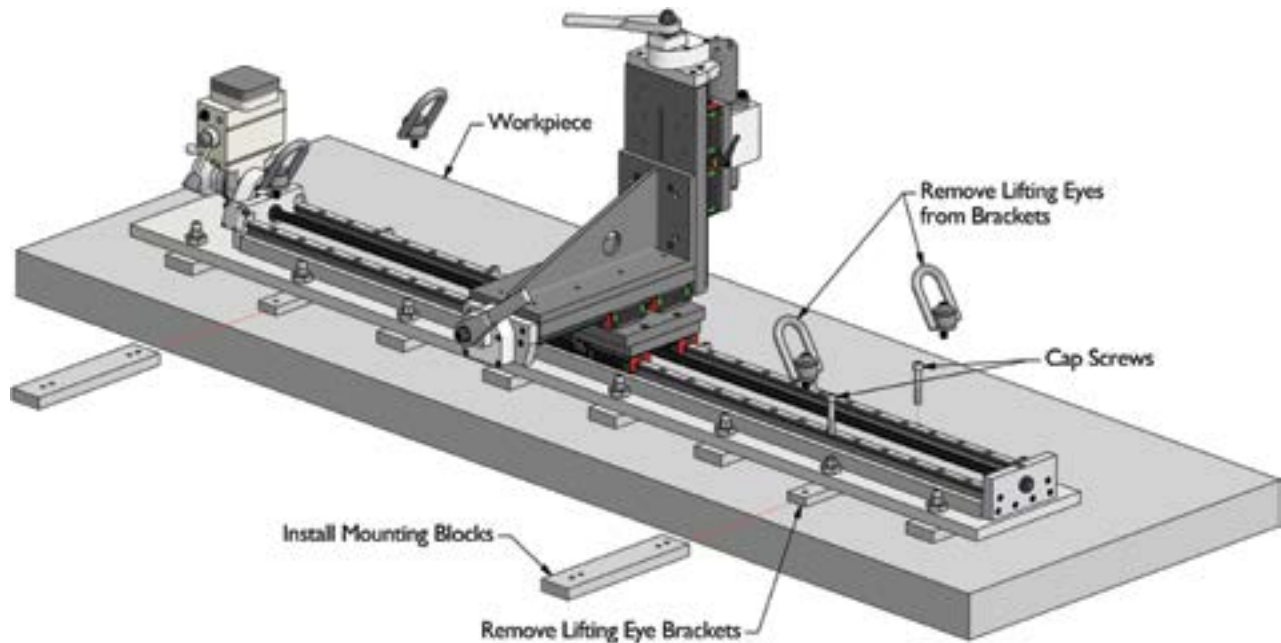

Figure 2 - Remove Lifting Eyes and Install Mounting Blocks
3. Remove the cap screws that attach the lifting eye brackets to the mill base. Remove the lifting eyes from the brackets. Slide the lifting eye brackets from under the mill base and replace with mounting blocks. See Figure 2.